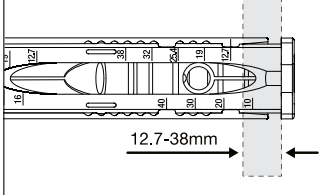
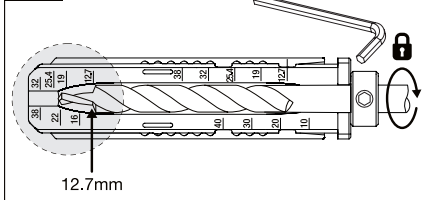

Fig.3
Fig.3a
- Setting the drill bit depth (fig. 3 & fig. 3a)